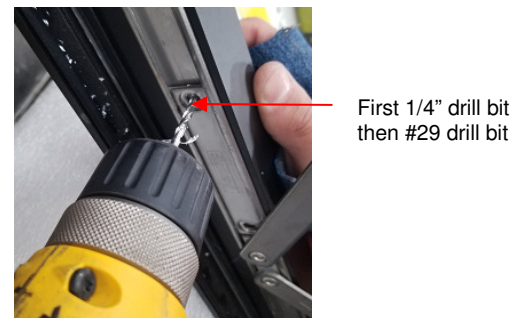

Figure 3:
4. With the Limit Stop at the desired location drill using a 1/4" drill bit until the drill is through THE 4-BAR HINGE ONLY (Figure 3). Clean out any shavings that may have occurred during the drilling process.
5. Using a #29 drill bit, drill through the outer wall of the Awning / Hopper window frame (Figure 3). Ensure that only the outer wall is penetrated.